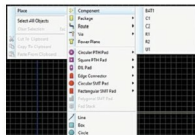

Fig. 24: Placing the components
10. Place each component outside the yellow box by right-clicking option Place→Component (Fig. 24).